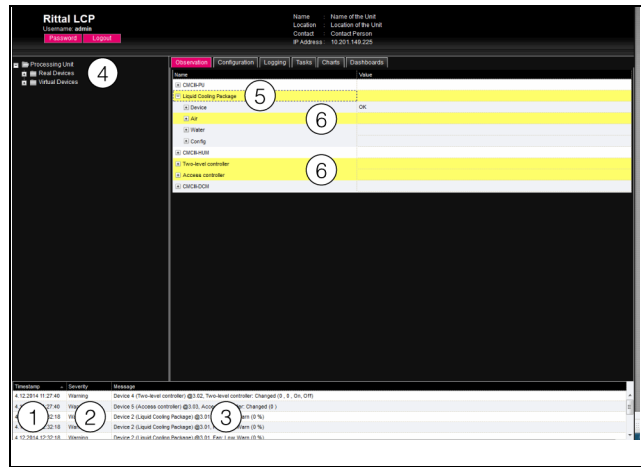

Fig. 107: Layout of message display
1. Timestamp: The date and time when the error occurred (fig. 107, item 1).
2. Severity: Severity of the error. A distinction is made between Warnings and Alarms (fig. 107, item 2).
3. Message: Error message in plain language (fig. 107, item 3).
- Left-hand screen section (navigation area): The symbol in front of the component on which the error occurred is shown in red in the tree view in the event of an alarm message, and yellow in the event of a warning message (fig. 107, item 4).
- Right-hand screen section (configuration area): On the **Observation** index tab, the entire component and the specific parameter to which the warning or alarm applies is shown in red or yellow (fig. 107, items 5 and 6).